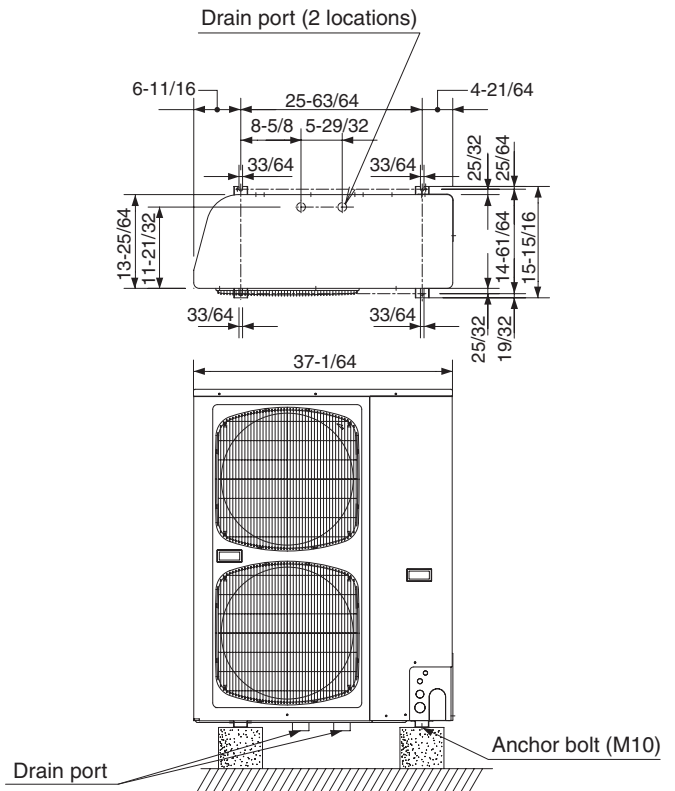

Fig. 1-12
- Refer to the Fig. 1-12 for the anchor bolt dimensions.